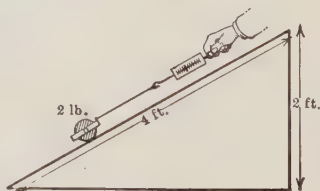

FIGURE 551.
EXPERIMENT 142. — Let us use an inclined plane 4 feet long with its raised end 2 feet above the table (Figure 551). The weight to be
**378. Law of the Inclined Plane.** — If we could get perfect apparatus that did away with all friction, we should find that only 1 pound of force would be needed to pull the 2-pound roller up the plane of Figure 551. That is, 1 pound (force)  $\times$  4 feet (distance) gives 4 foot-pounds of work done. This is just equal to the foot-pounds required to lift the 2-pound